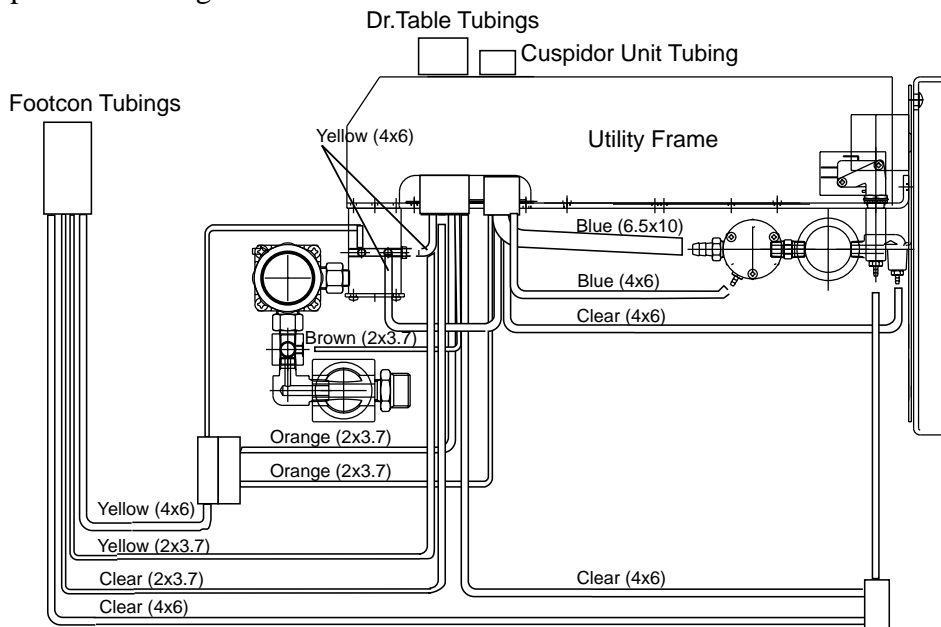

Fig.3-6-3 Connection Tubings in Utility Section
(3) Connection Tubings in Utility Section (Fig.3-6-3)